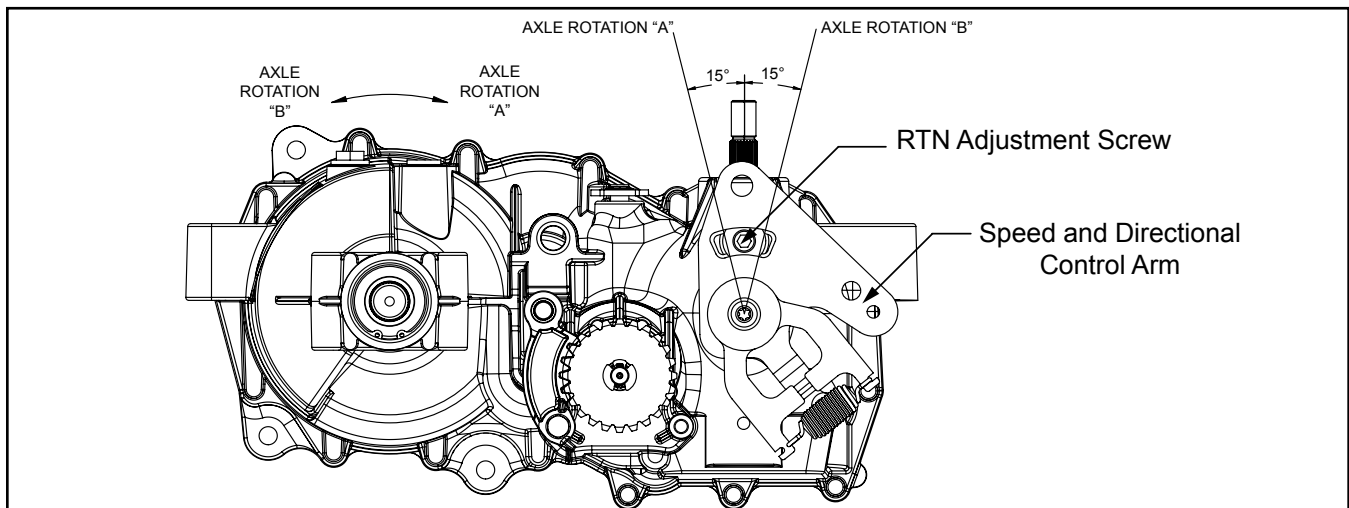

Figure 5. Return to Neutral Setting
2. Remove the Original Equipment Manufacturer's (OEM's) control linkage at the control arm. Refer to Figure 5.
5. Stop the vehicle's engine. Reattach and adjust the OEM linkage according to Step 3 and Step 4. Stop the vehicle engine. Refer to Figure 5.
6. Note the axle directional movement. Stop the vehicle engine. Loosen the RTN adjustment screw until the control arm can be rotated. Rotate the control arm in the opposite direction of the wheel rotation in 5 degree increments. Tighten the RTN adjustment screw. Refer to table 8. Required Torque values, page 15. Recheck according to steps 3 and 4. Stop the vehicle engine. Reattach and adjust the OEM linkage according to the OEM manual. Recheck according to steps 3 and 4. Refer to Figure 5.